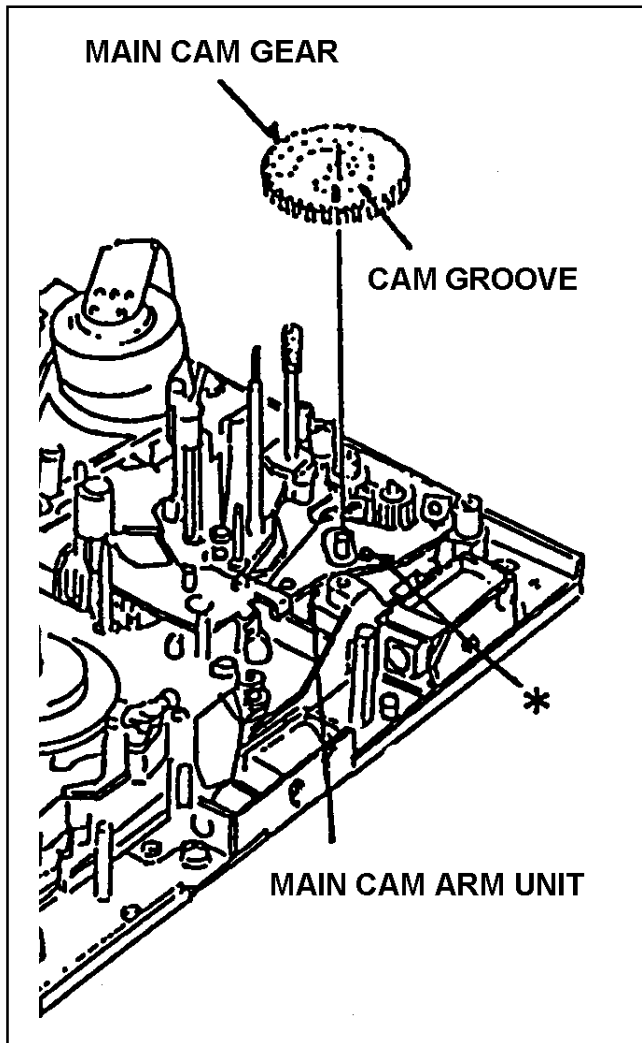

Figure 5-12
1. Remove the Pinch Solenoid Unit and Loading Motor Unit. (Refer to item 5-8 and 5-10.)
2. Remove the Main Cam Gear as shown in Figure 5-12.
1. Install the Main Cam Gear, then the pin of Main Cam Arm Unit (*) should match with the groove position of Main Cam Gear as shown in Figure 5-12.
3. After installation, perform the Pinch Solenoid Position Adjustment. (Refer to item 5-8)